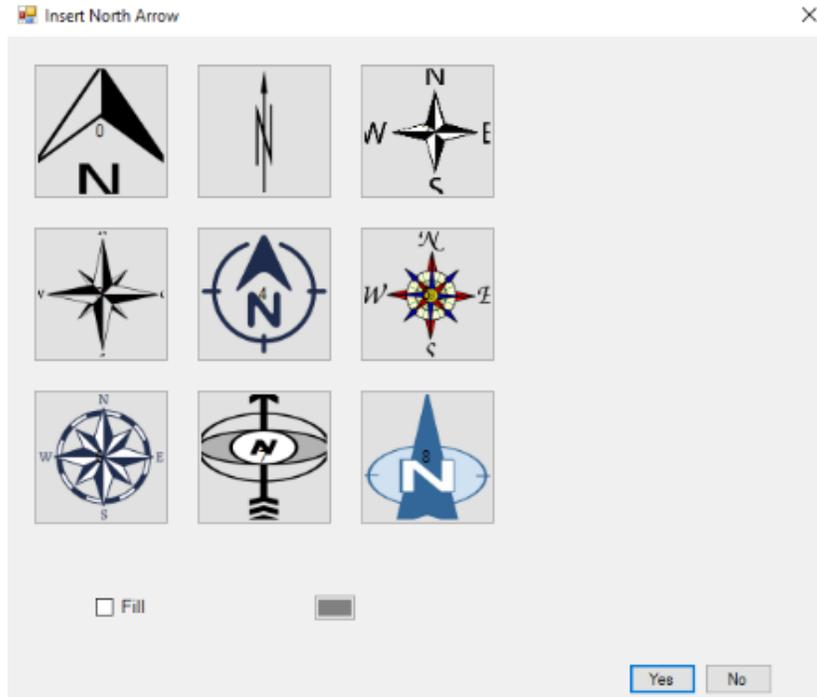

Figure 4-7. Form to insert a north arrow.
In the Insert menu, click North Arrow. A form will appear (Figure 4-7).
2. Format the north arrow. Double-click the north arrow to bring the format form (Figure 4-7). You can change the type of fill color for the north arrow here.